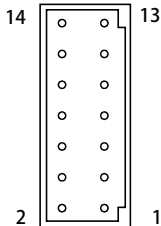
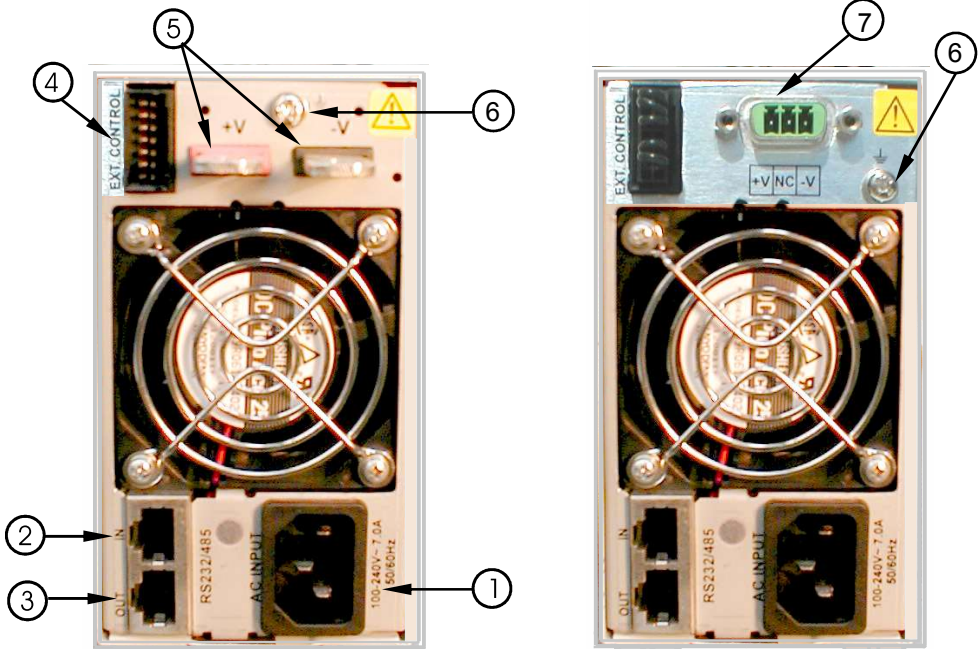
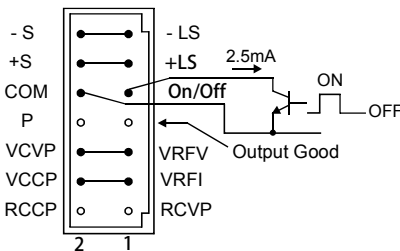
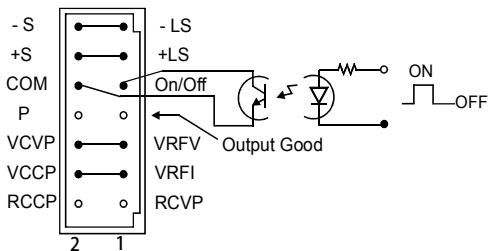

Fig. 3-5:
Fig. 4-2: Rear panel connections
Fig. 4-3: ON/OFF Control, references to - Sense.
Fig. 4-4: Floating ON/OFF Control
The external control connector, used for analog programming of the power supply, is located on the rear panel of the unit, (Fig. 4-2, item 4). The pin assignment is shown in Fig. 3-5 below.
Contacts 9, 10 at the rear panel External Control connector (fig. 4-2, item 4) serve as ON/OFF terminals. Either short circuit or TTL '0' level enables the power supply output and open circuit or TTL '1' level disables the power supply's output. An open collector transistor can be used for the ON/OFF control as shown in fig. 4-3, with sink current ability of more than 2.5mA. Please note that pin 10 (COM) is internally connected to the - Sense potential, therefore for floating ON/OFF Control a photocoupler should be used as shown in Fig. 4-4.